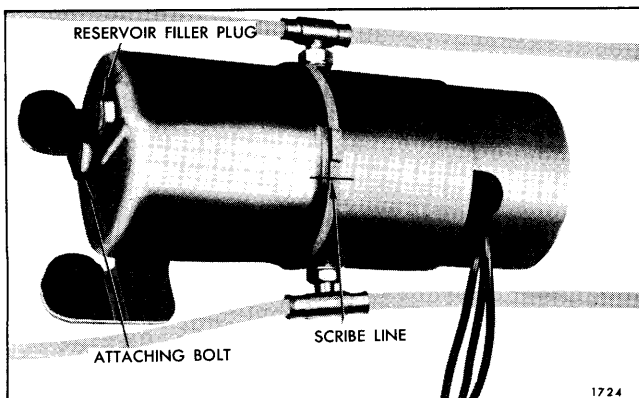

Fig. 13-57—Hydro-Lectric Motor And Pump Assembly
2. Scribe a line across pump end plate and reservoir tube to insure a correct assembly of parts. See Figure 13-57.